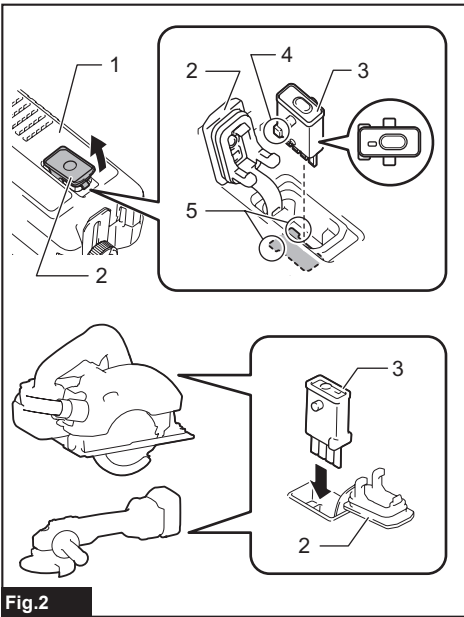

Fig. 2
- **Fig.2:** 1. Adaptor 2. Lid 3. Wireless unit